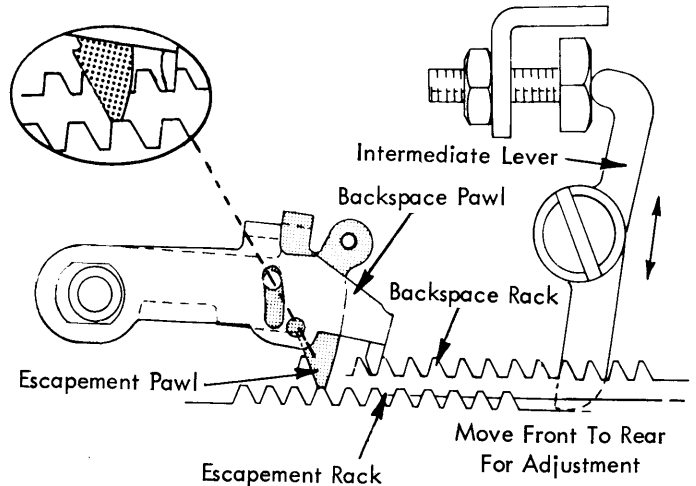

FIGURE 128. Intermediate Lever Adjustment (Late Level)
4. **Intermediate Lever** - With the backspace cam manually operated to the high point, the escapement pawl should just fail to drop into the preceding rack tooth causing the manual backspace operation to fail. Adjust the intermediate lever pivot screw forward or back in its elongated mounting hole to obtain this condition (Fig. 128).